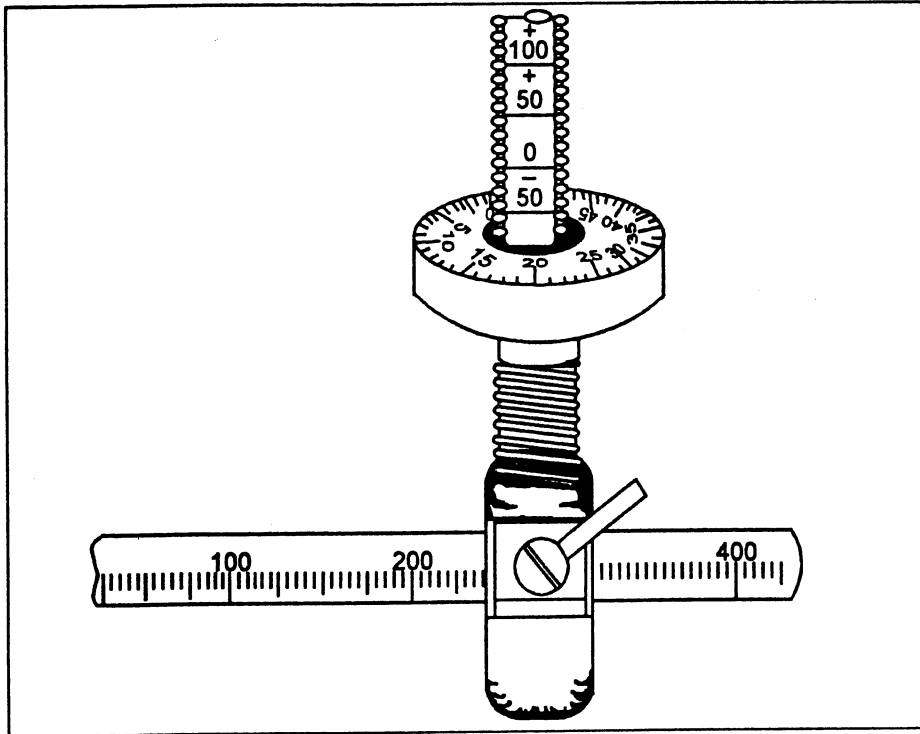

Fig 4-17. Left 250, -50/20 (L250, -50/20).
- (4) Read the direction by observing the left edge of the traversing slide and the traversing slide scale. If the left edge of your traversing slide is to the left of the zero mark, you have a right direction. If the right edge of your traversing slide is to the right of the zero mark, you have a left direction. (Direction is determined by the direction of the muzzle.) You will record the direction to the first visible 5 mil line. Do not worry about whether the traversing slide falls between two marks because there is more than 5 mils play in the T&E mechanism.
- (5) You obtain the elevation reading by using two scales. Each of the two parts of the readings are separated by a slash. You will first read the elevation scale on the upper elevating screw plate, which is graduated into 50 mil increments from -200 mils to +200 mils. There is an index line below each number and a plus (+) or minus (-) sign above each number, with the exception of zero (0).
- (a) Your first portion of reading is the first complete number observed by laying directly behind the gun and looking over the flat surface of the handwheel. You must include the plus (+) or minus (-) sign as well as the number. Using figure 4-17, your first part of the reading would be minus 50 (-50).
- (b) Your second part of elevation reading comes from the scale on the elevating handwheel, which is graduated into 1 mil increments for a total of 50 mils. Locate the graduation on the line with the indicator. In figure 4-17, the second portion of the reading would be 20. When you record the elevation data, it will look like this: -50/20.
d. Observe figures 4-17 and 4-18 for left and right reading.